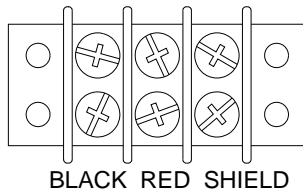

Figure 10 T1 WIRING DIAGRAM
3. Connect the control cable to terminal strip T1 (located to the left of the test jack S12) according to the diagram in figure 10.